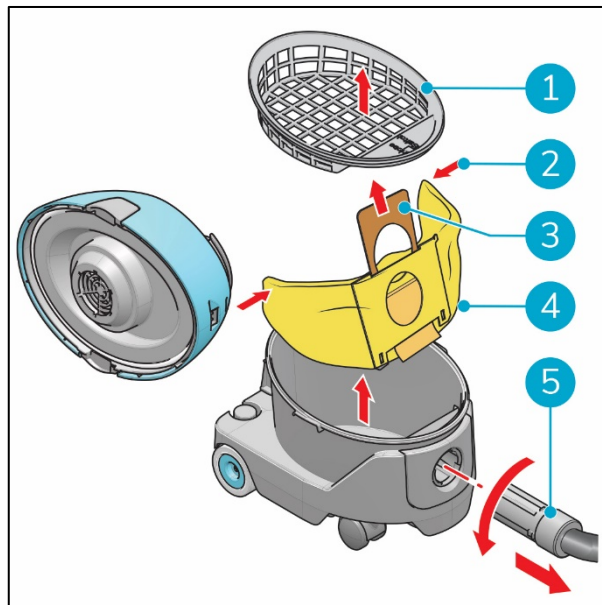

Figure 10
6. Turn the hose (Figure 10, pos 5) counterclockwise and remove it from the hose connector.
7. Remove the filter bag (Figure 10, pos 1).
8. Pull the cardboard tag (Figure 10, pos 3) to seal the dust bag.
9. Fold the ends of the dust bag (Figure 10, pos 2) towards each other.
10. Remove the old dust bag (Figure 10, pos 4).